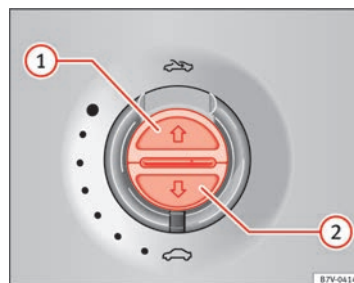

Fig. 59 On the interior roof lining: switches for the sunshade.
| To open completely (automatic):   | Press the button ⇒ fig. 59 1 briefly.   |
| To stop automatic operation:      | Press the button ⇒ fig. 59 1 or ⇒ fig. 59 2 .                                      |
| To set the intermediate position: | Hold the button ⇒ fig. 59 1 or ⇒ fig. 59 2 until the required position is reached. |
| To close completely (automatic):  | Press the button ⇒ fig. 59 2 briefly.   |
- *Sunshade*: Within five seconds of triggering the anti-trap function, push the ⇒ fig. 59 ② button until the sunshade closes completely.